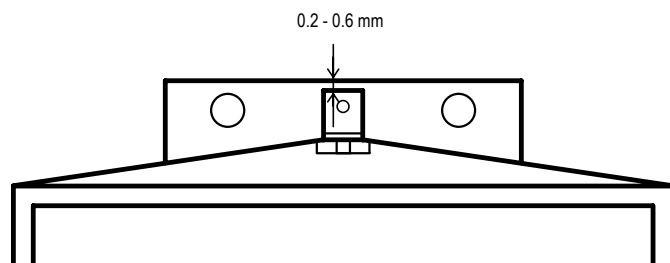

Fig. 6
- Check spindle zero position, see Fig. 6.